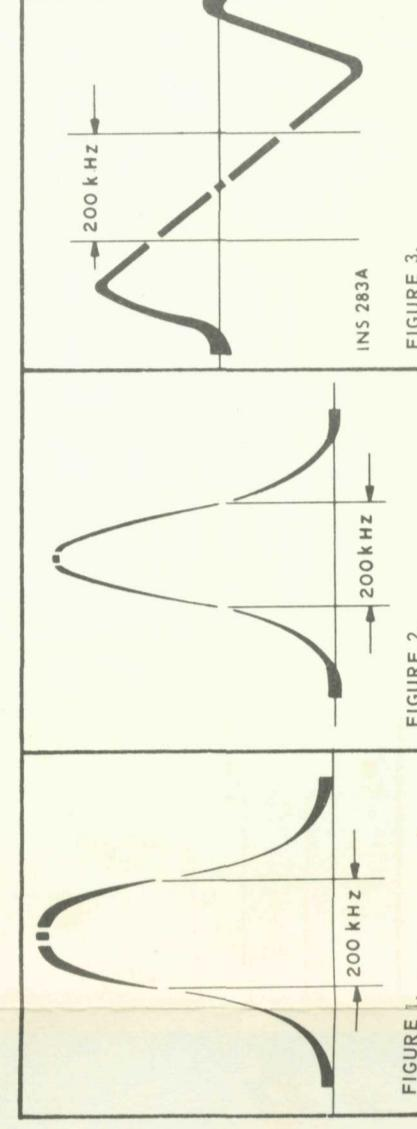

FIGURE 2.
- Align top core of Z303 for maximum gain and symmetry—see Figure 2.